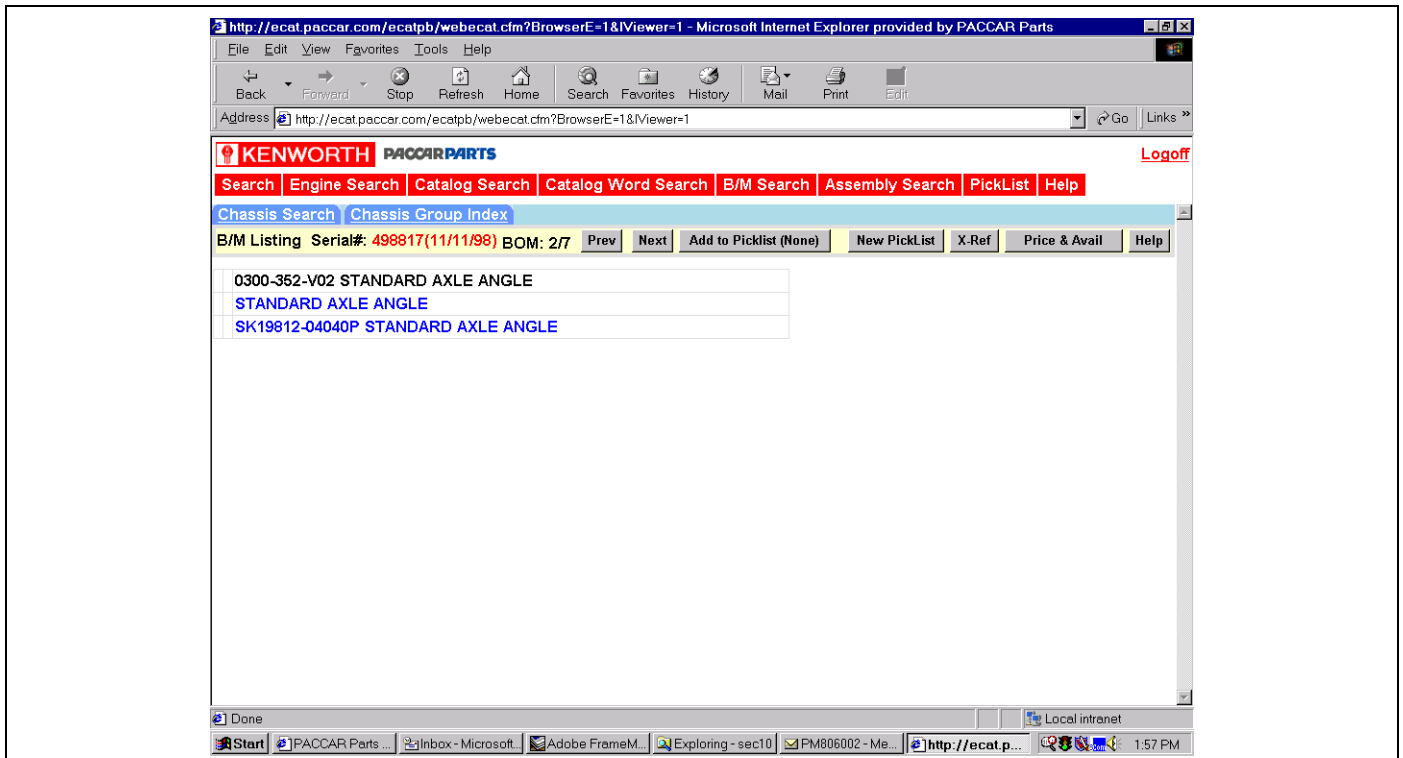
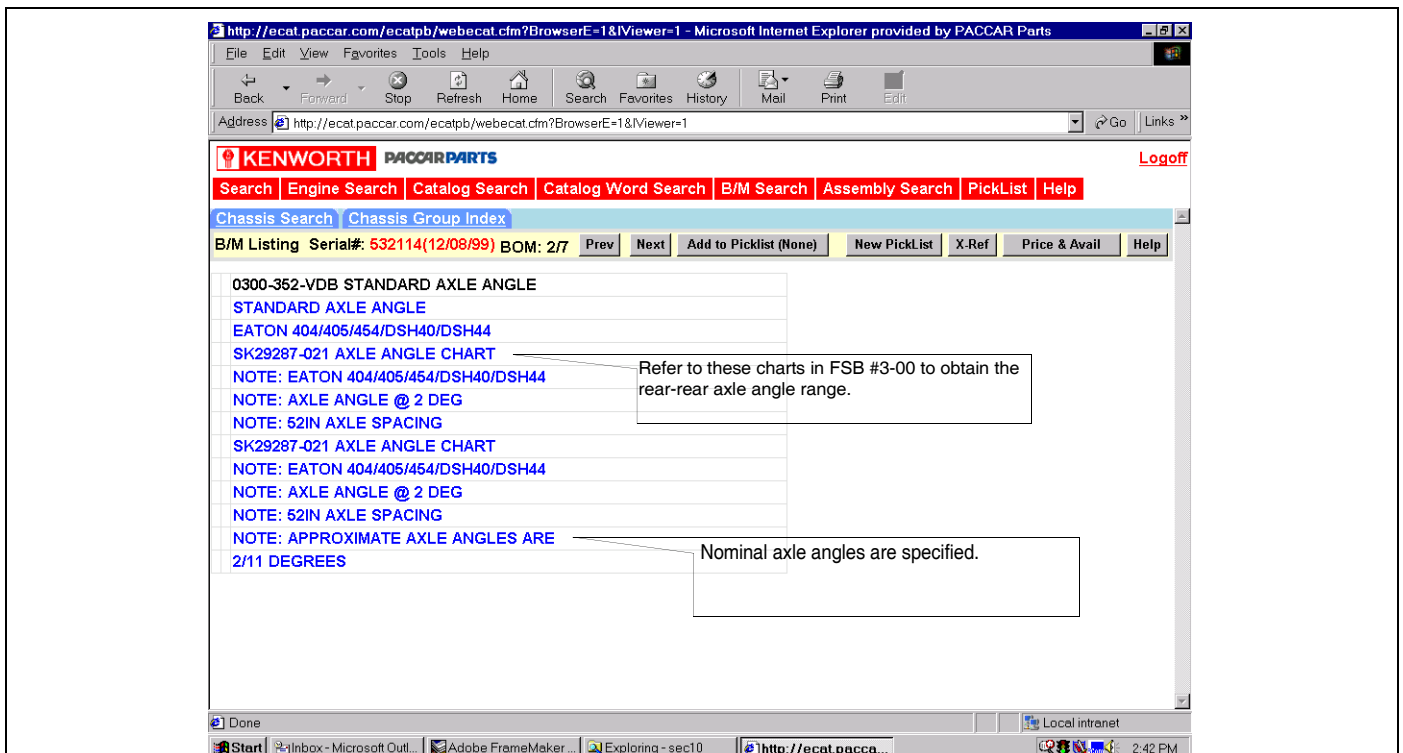

Figure 1-8 Example of Rear Axle Angle Information Bill (Parallel Axle Configuration)
Figure 1-9 Example of Rear Axle Angle Information Bill (Broken-back Axle Configuration)
16. Obtain the specified forward-rear axle angle from the vehicle's final chassis bill of material (FCBM). This information is located in the vehicle's record in the electronic parts catalog (ECAT). Refer to Figure 1-8 and Figure 1-9 for examples of rear axle angle bills. See F.S.B. # 3-00R for axle angle charts.